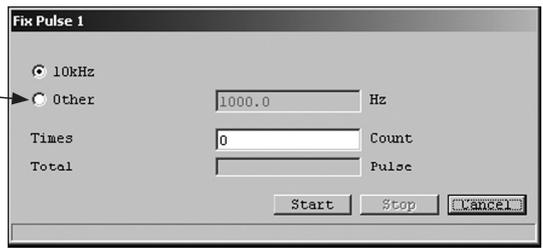

Fig.121
- ① Click the "Diag/Service (T)" menu, and then select and click "Fix Pulse" from the "Loop Test" drop-down list.
- ② The following window will be displayed (Fig. 121). Select the simulated output value and click the "Start" button. To pick another pulse frequency to output, select "Other" and click the "Start" button after inputting the pulse frequency.
- ③ "Times" in Fig. 121 can be used to set any output time, and the system will output until the set time (the output time "Times" is equivalent to "Count" times 10.24 ms). "Total" is used to display the number of output pulses when a fixed number of output executions is reached.
Click the "Cancel" button to return to the window shown in Fig. 121.
- ⑦ Clicking the "OK" button would return the interface to the window shown in Fig. 121, so click the "Cancel" button to exit "Fix Pulse".